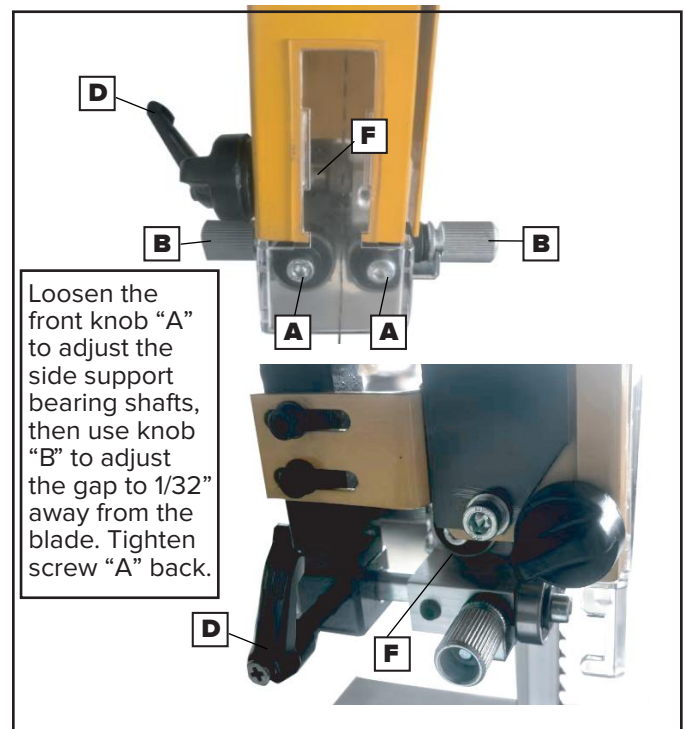
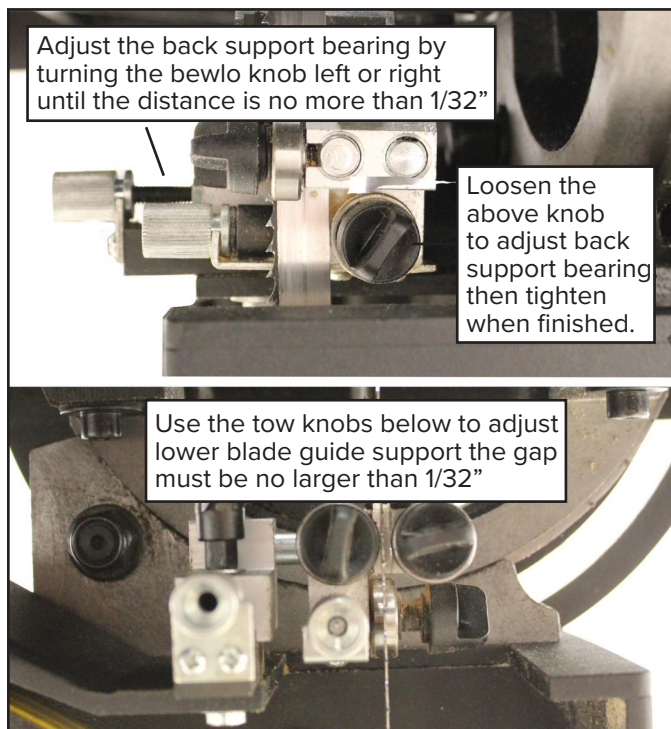

Figure 24: Upper Blade Guide Adjustment.
Figure 25: Lower Blade Guide Adjustment.
1- Begin by positioning the right and left guides relatively close to the blade. Loosen the front Screws (A) Fig 24. Use the knurled, micro-adjusting Knobs (B) Fig 24 to move the guides towards or away from the blade.
2- Ensure the front of the guides is approximately 1/16” behind the gullets of the saw blade (Fig. 24 ). If adjustment is needed, loosen the Locking handle (D) and adjust the upper guides until properly positioned. Retighten the Locking handle after adjustment.
3- Set both side-bearing guides to within 1/32” of the saw blade, roughly the thickness of a business card Fig. 24.
4- Adjust the rear bearing guide to be just clear of the back of the saw blade. Loosen the rear guide’s Locking screw (F, Fig. 24) and move the rear guide towards the blade by turning the rear, knurled micro-adjusting Knob.
1- Begin by loosening the lower support Locking Handle, Fig 25. Then, use the micro-adjusting Knob, Fig 25 to move the blade Guide Block, Fig 24 until both side bearing guides are approximately 1/16" behind the gullets of the bandsaw blade, referring to Fig. 25. Once in position, tighten the Locking Handle.
3- Loosen the front Locking Knobs Fig 25. Use these knobs as handles to slide the bearings towards or away from the blade. Once adjusted, secure the Locking Knobs.
4- Adjust the rear bearing guide to be just clear of the back of the saw blade. Loosen the rear guide's Locking Knob and use the lower, front micro-adjustment Knob Fig. 25 to move the rear guide towards the blade. When the correct adjustment is achieved, lock the guide in place by tightening the Locking Knob.